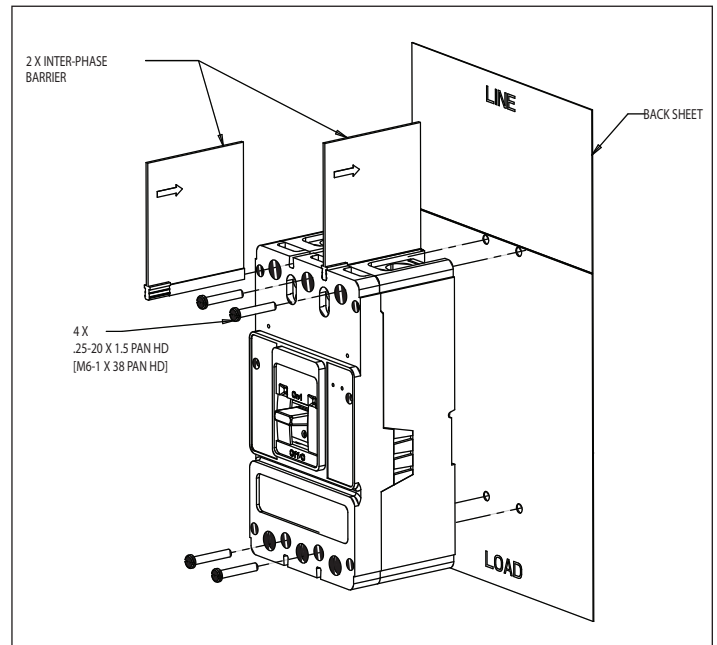

Figure 7. Installing Back Sheets.
- c. Install supplied back sheet, per Figure 7.